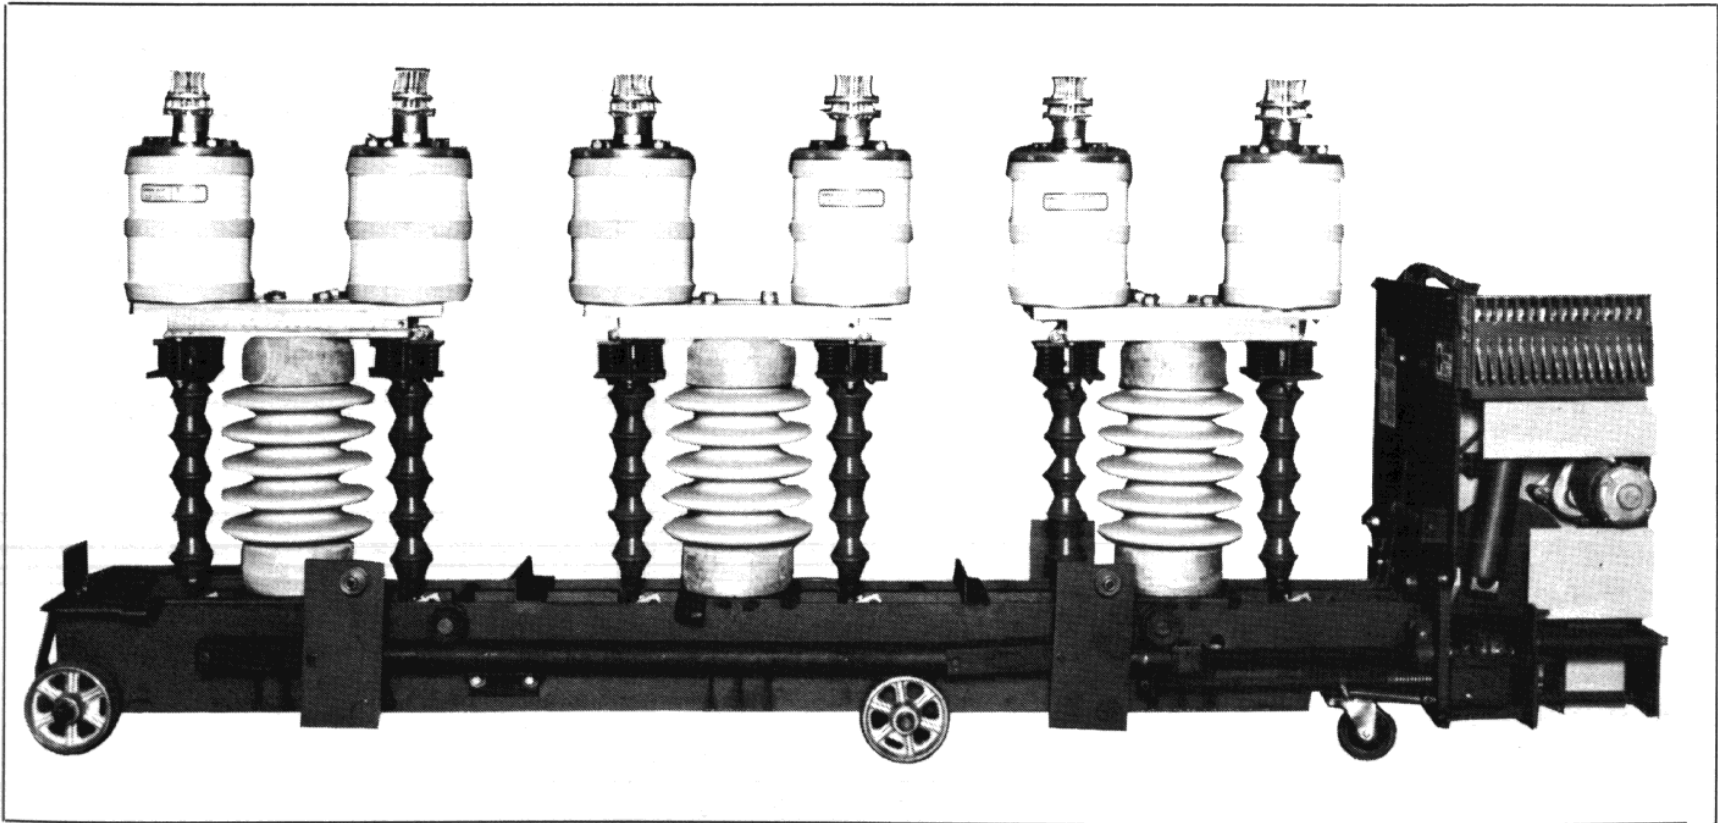

Figure 47A–VV1500 Vacuum Circuit Breaker
2. Remove barrier assembly to expose the interrupter assemblies. Refer to item 2 page 79 also Fig. 47a.